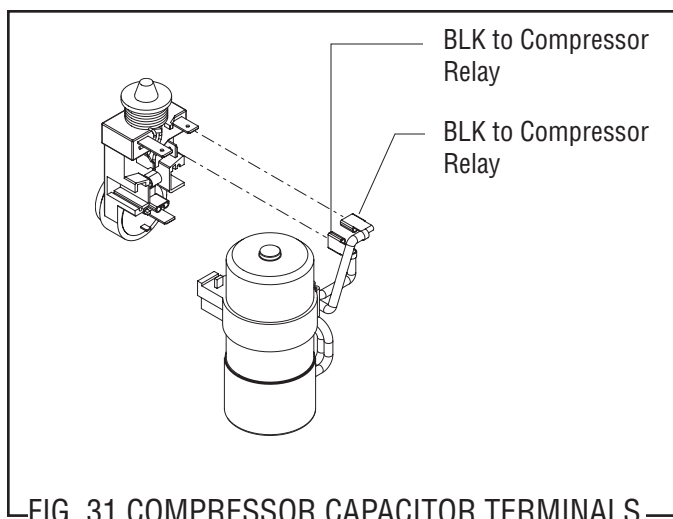

FIG. 31 COMPRESSOR CAPACITOR TERMINALS
Compressor Run Capacitor: Refer to FIG. 31
1. Remove terminal cover (4).
6. Refer to Fig. 31 and reconnect the wires.